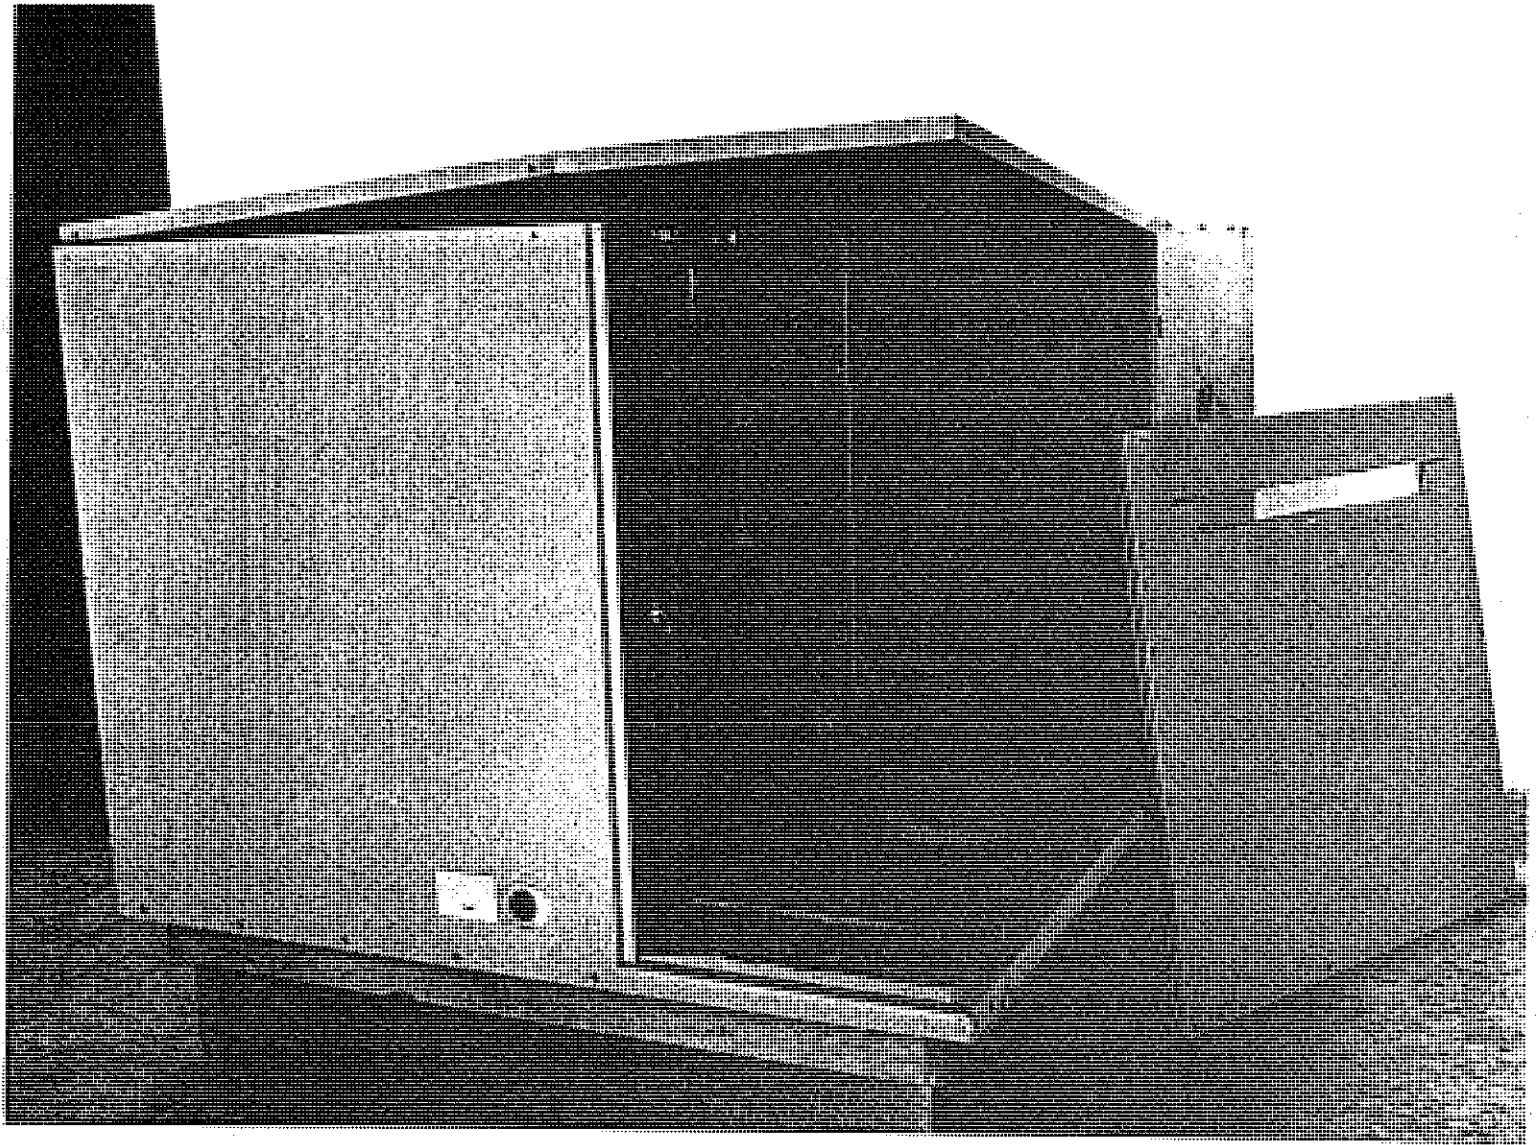
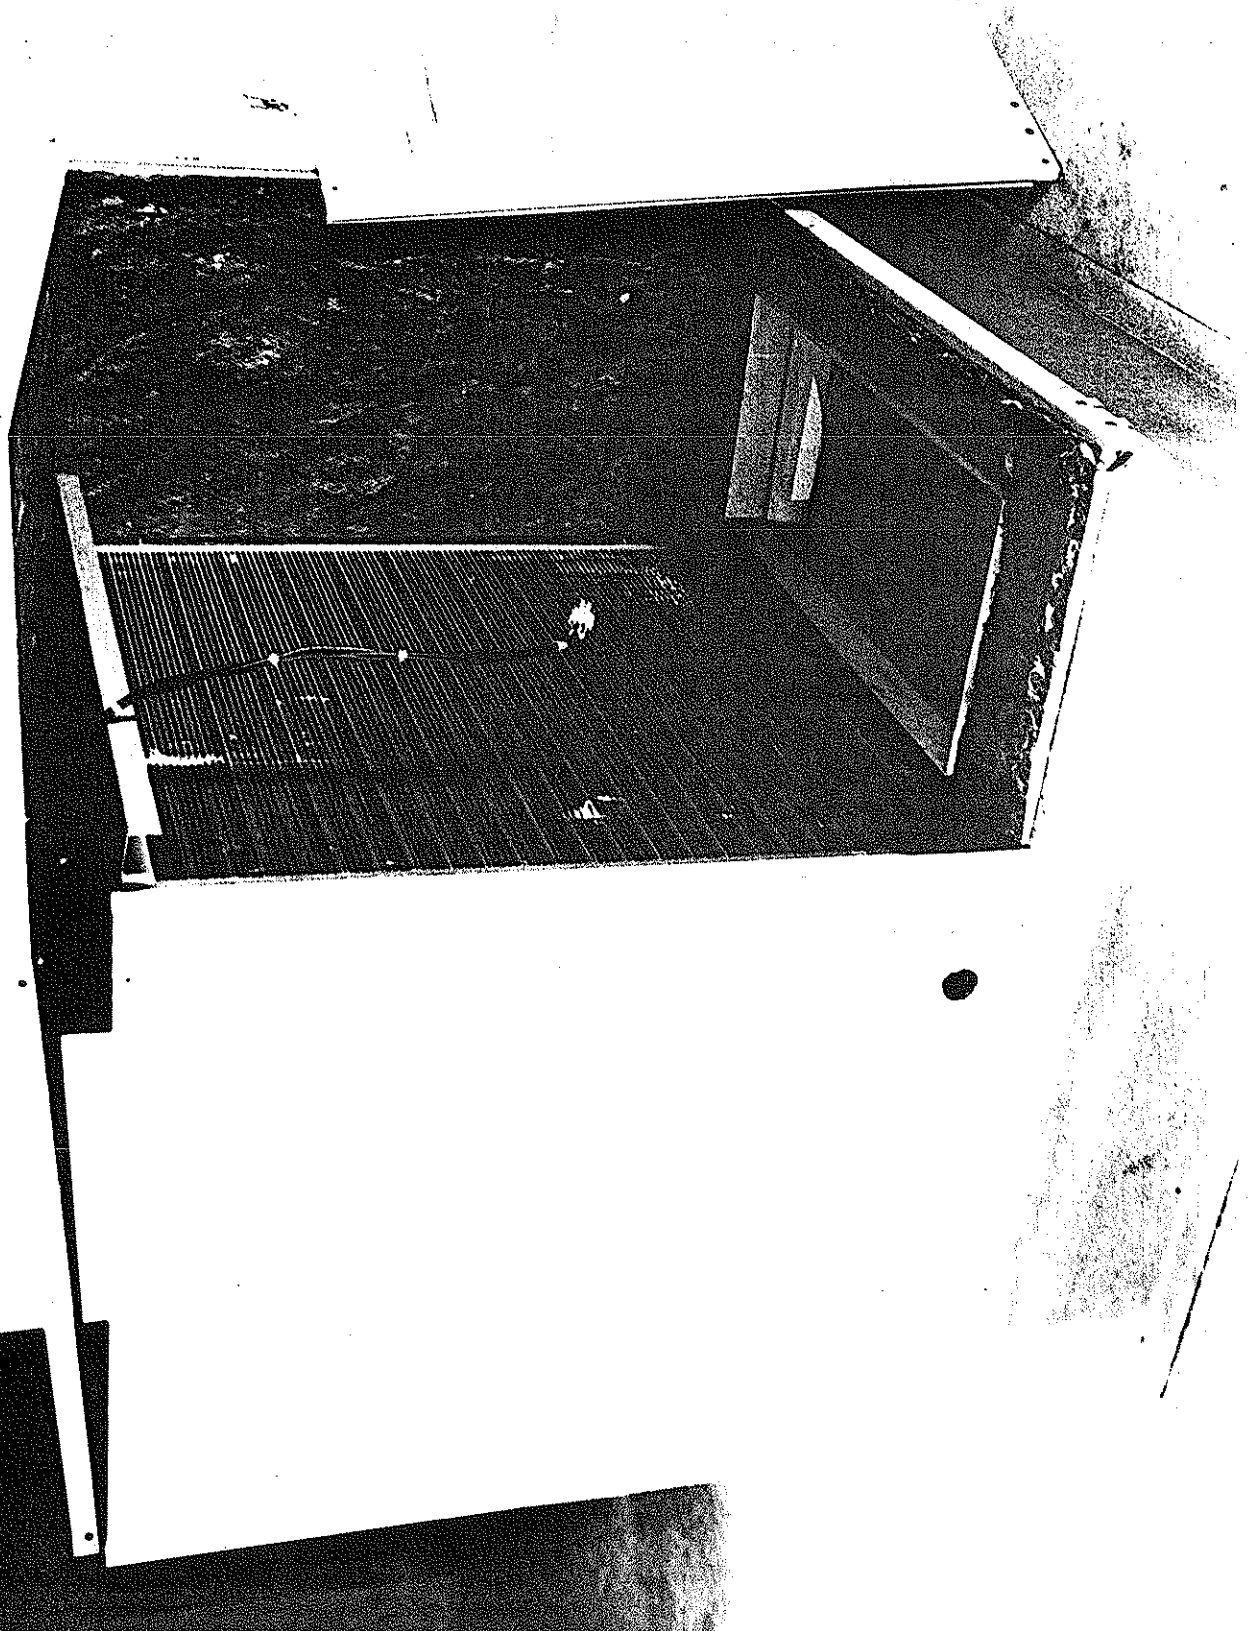

Figure 2.
Figure 3.
5. Raise the free corner of the top taking care not to damage (bend or buckle) it. (See Figure 2) Slide the top filter rack subassembly into the unit over the evaporator coil. Position the rack over the coil as shown in Figure 3.